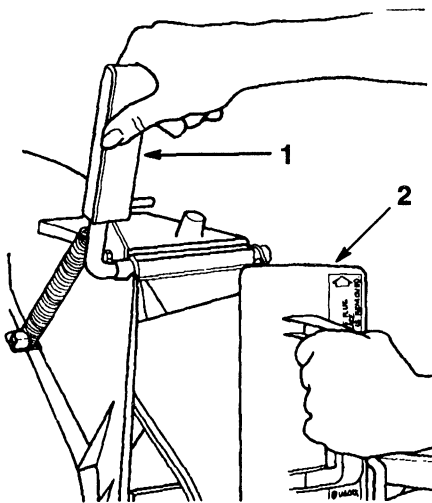

Figure 9
1. Make sure engine is off. Open the discharge door by pulling forward on the handle and moving it rearwards (Fig. 9). Hold the discharge door handle to prevent the spring-loaded door from closing while inserting the plug.
2. Since the plug is slightly wider than the discharge tunnel opening, you must rotate the plug clockwise slightly while inserting it (Fig. 9). Make sure the arrow on the plug decal is pointing upwards.